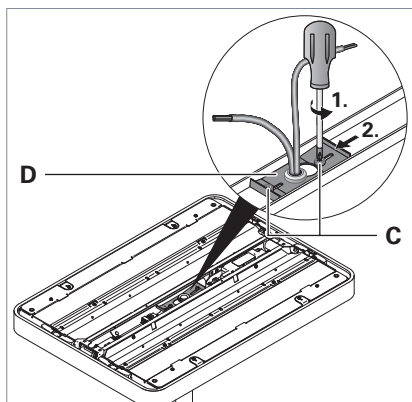

Fig. 25: Dismounting the light head from a light with central connection
- Unscrew both screws **C** from the retaining strap **D**, see Fig. 25.
- Push the retaining strap all the way to the other side, see Fig. 25.